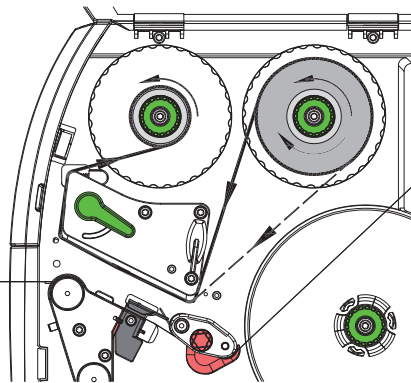

Figure 21 Transfer ribbon feed path
5. Hold transfer ribbon roll (1) firmly and turn knob on ribbon supply hub (3) counterclockwise until the transfer ribbon roll is secured.
6. Slide suitable transfer ribbon core (4) onto the transfer ribbon take-up hub (5) and secure it in the same way.
7. Guide transfer ribbon through the print unit as shown in Figure 21.
8. Secure starting end of transfer ribbon to the transfer ribbon core (4) with adhesive tape. Ensure counterclockwise rotation direction of the transfer ribbon take-up hub here.
9. Turn transfer ribbon take-up hub (5) counterclockwise to smooth out the feed path of the transfer ribbon.
10. Turn lever (6) clockwise to lock the printhead.